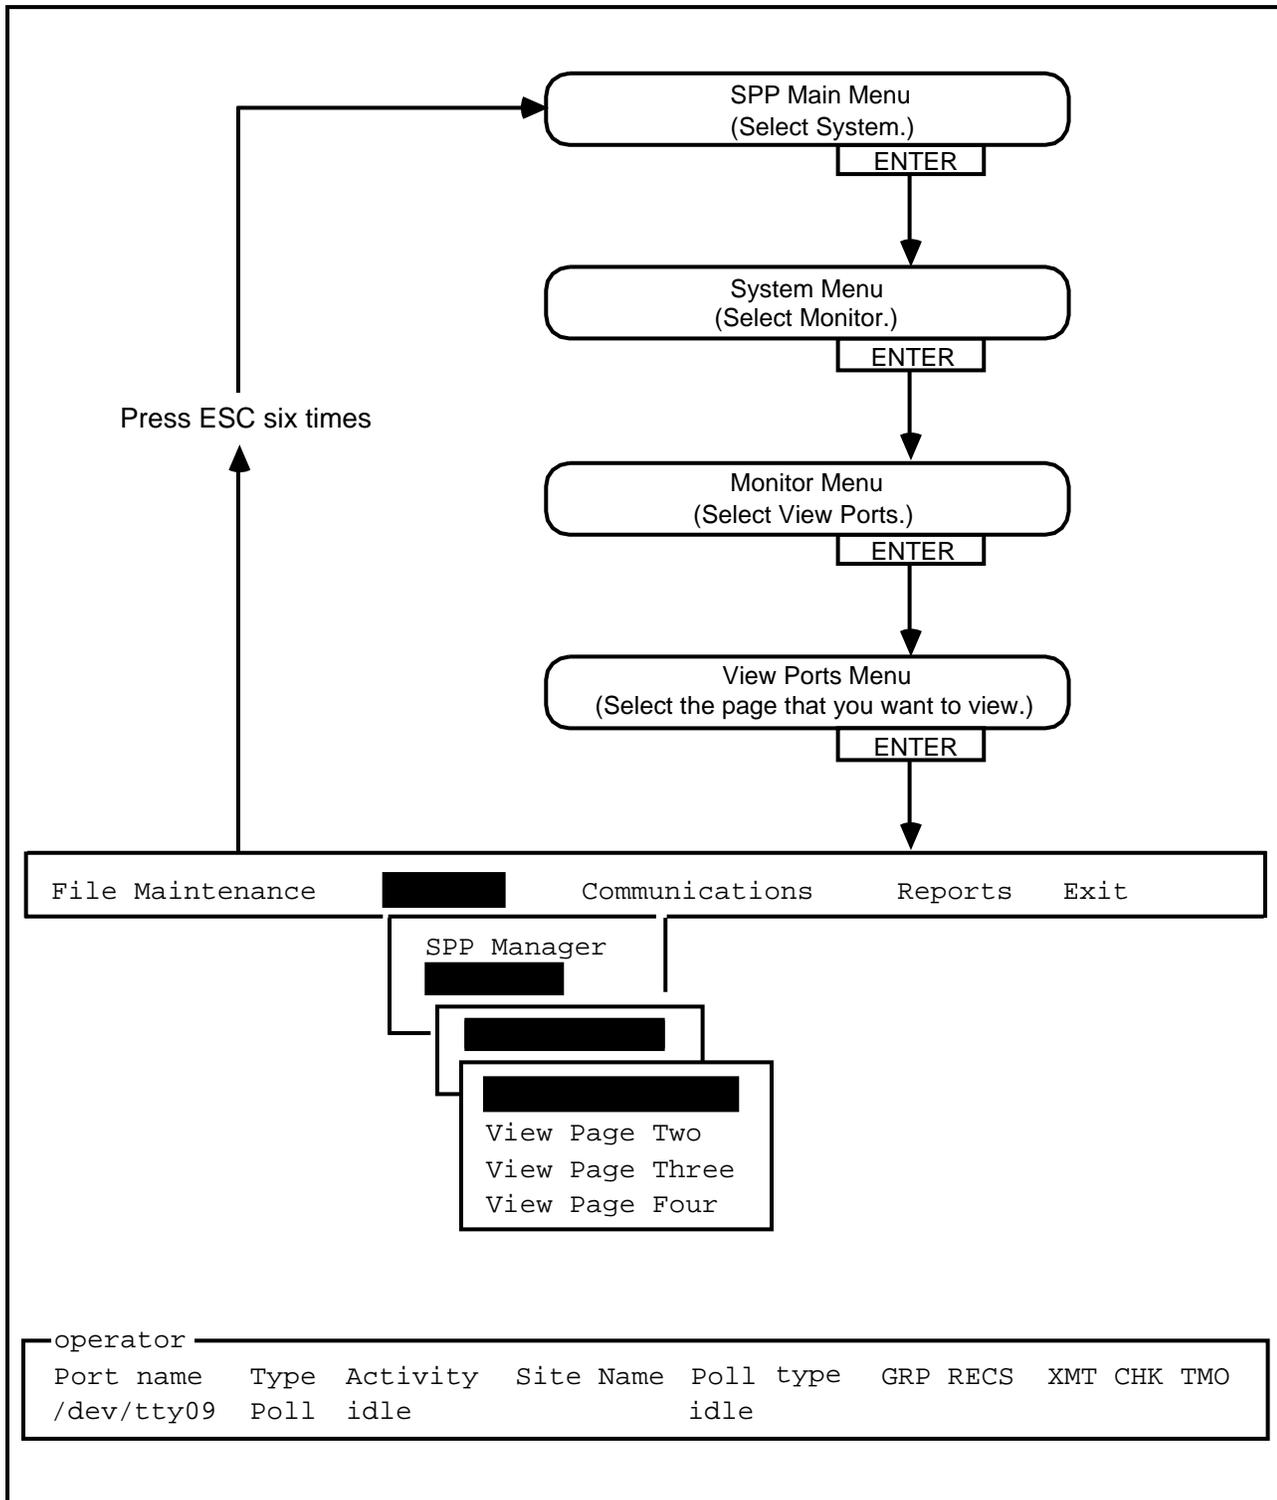

Fig. 4-4
4.08 To view the status and real-time activities of the SPP ports (see Fig. 4-4), proceed as follows: